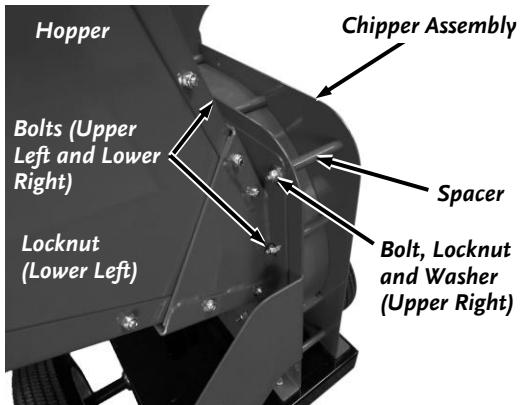

Figure 49a: Pro-475
- a. Remove the Locknut and Washer from the upper right Bolt and lower left Stud of the Hopper (**Figure 49a**). The Bolt can be left in place and make sure the Spacer stays in the location shown.